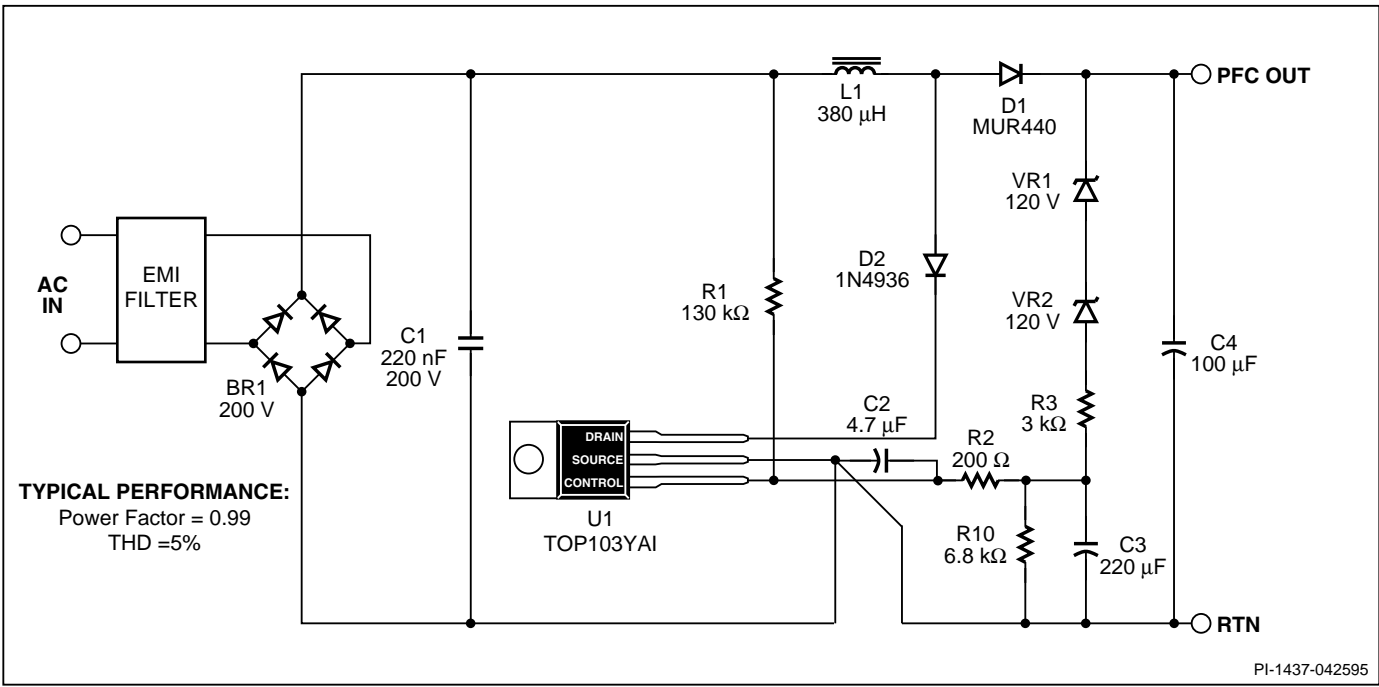

Figure 10. Schematic Diagram of a 60 W 110 VAC Input Boost Power Factor Correction Circuit Utilizing the TOP103.
*TOPSwitch* can also be used as a fixed frequency, discontinuous mode boost pre-regulator to improve Power Factor and reduce Total Harmonic Distortion (THD) for applications such as power supplies and electronic ballasts. The circuit shown in Figure 10 operates from 110 VAC and delivers 60 W at 265 VDC with typical Power Factor over 0.99 and THD of 5%. Bridge Rectifier BR1 full wave rectifies the AC input voltage. L1, D1, C4, and *TOPSwitch* make up the boost power stage. D2 prevents reverse current through the *TOPSwitch* body diode due to ringing voltages generated